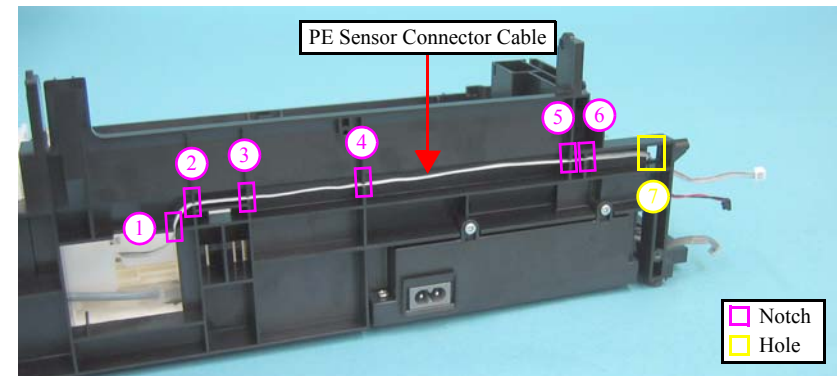

Figure 4-87. Releasing the PE Sensor Connector Cable
- Route the cable in the order given in Figure 4-87.